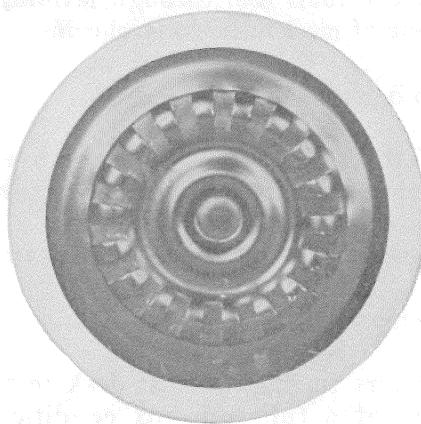
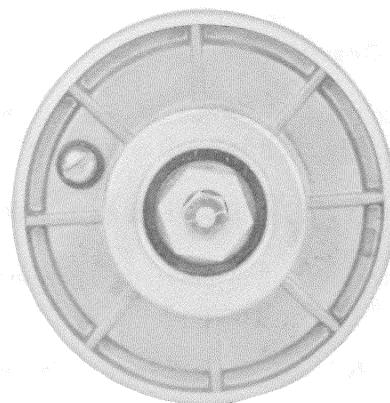

Fig. 36—T2 and T3 Transmitter Units, Front View
Fig. 37—T3 Transmitter Unit, Rear View
6.54 The T2 and T3 transmitter units (Fig. 36) have a protective grid to prevent fraudulent operation of the coin collector. The T3 (Fig. 37) unit has screw terminals for use with spade tip conductors.